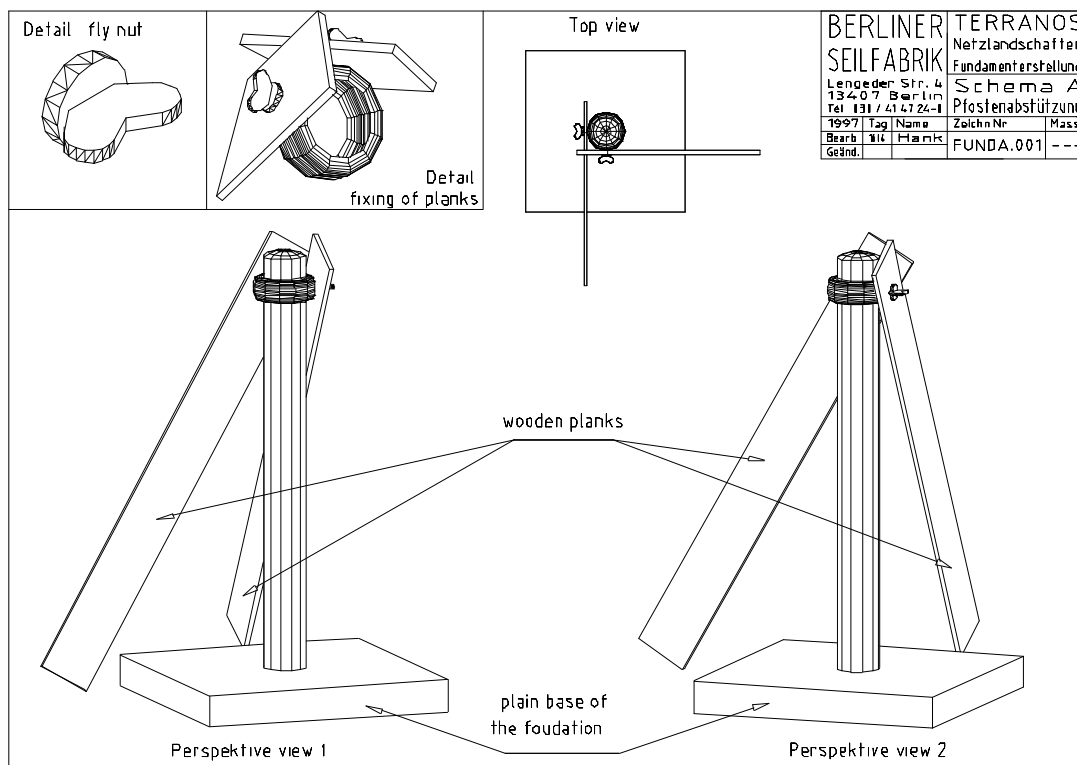

Figure 1: Schematic diagram depicting how to stabilise the foundation posts with wooden planks.
6. Position the posts so that they are situated in the middle of their respective foundation bases. Stabilise the posts with wooden planks (refer to the Figure 1). Fix the planks to the posts under the fly nuts of the premounted TERRANOS®-clamps. Use a spirit level to ensure that the posts are vertical.